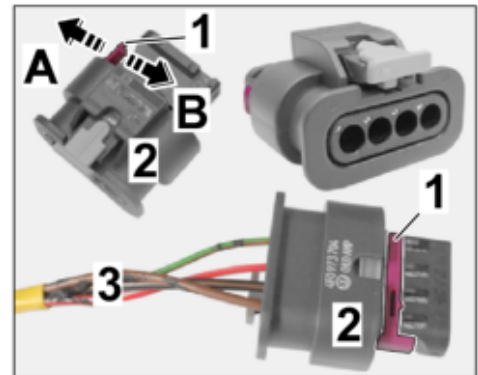

Figure 25
- 3.4.1 Release the socket housing (4-pin, see parts list). \Rightarrow Figure 25 -A-
3.4.3 Lock the socket housing (4-pin, see parts list). ⇒ *Figure 25 -B-*